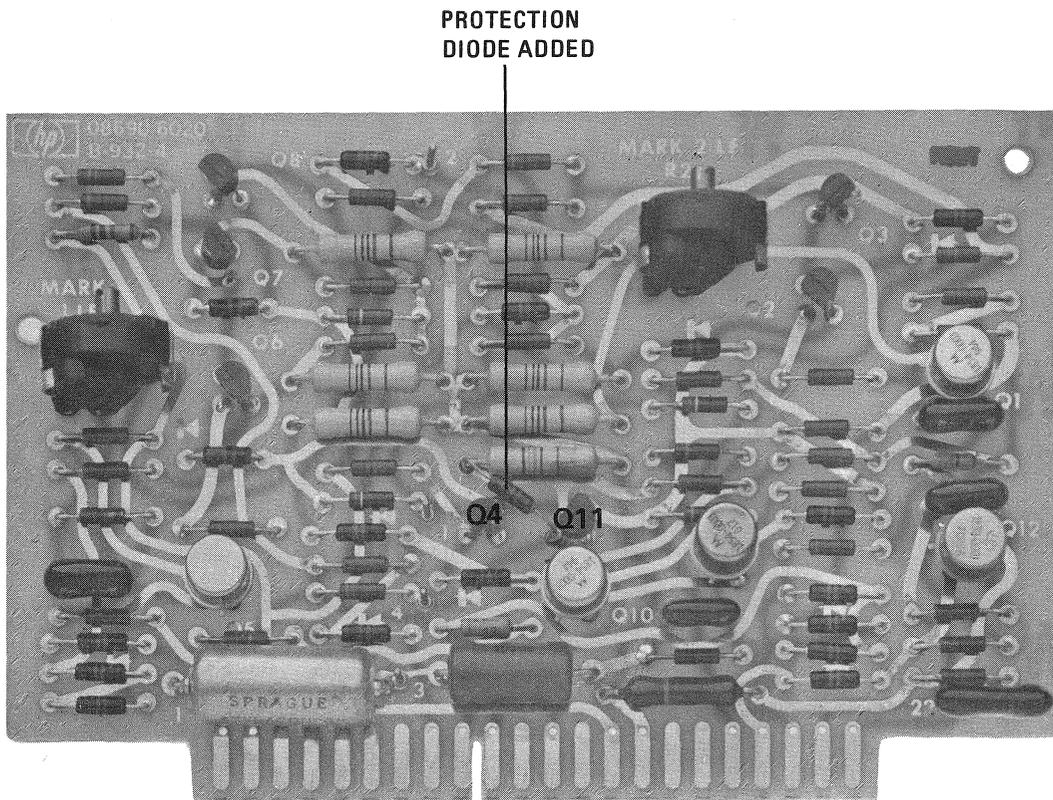

Figure 1. Modified A11 Amplitude Modulator Board Assembly
5. Install a diode (HP Part No. 1901-0033) from the base to emitter of Q11. Connect the diode anode to the base and the cathode to the emitter. See Figure 1.